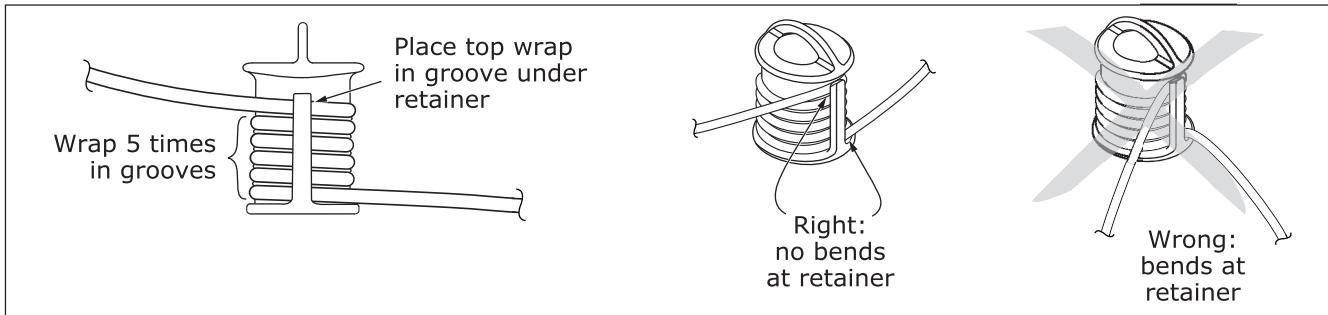
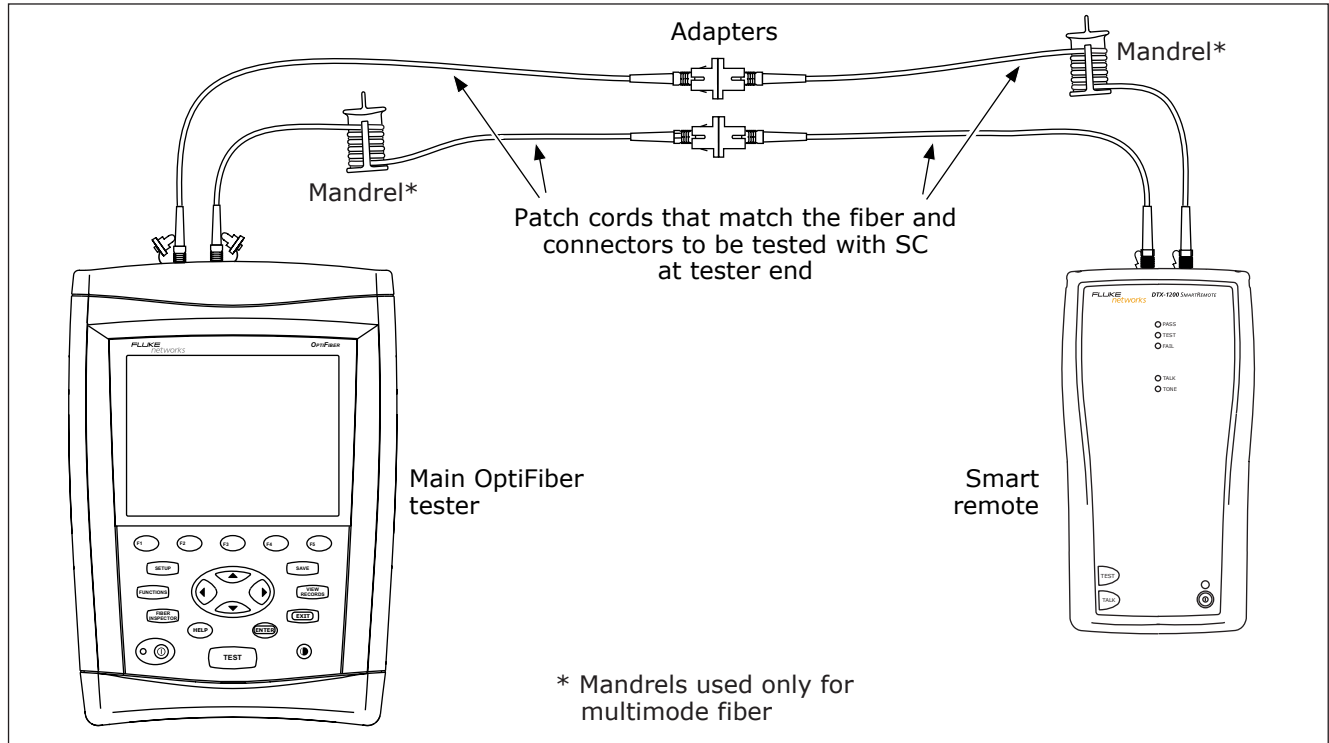

Figure 20. Wrapping a Patch Cord Around a Mandrel
Figure 22. Smart Remote Mode Reference Connections
- At the beginning of each day using the remote end setup (Figures 22 through 29) you will use that day. The tester reminds you to set the reference if the reference is more than 12 hours old.
Figure 20 shows how to wrap the fiber around a mandrel. Place mandrels on the tester's output fibers, as shown in Figures 22 through 29.
- 7 **On the main tester:** press **FUNCTIONS**; then select **Set Loss/Length Reference**. Connect the reference patch cords as shown on the screen and in Figure 22; then press **ENTER**.